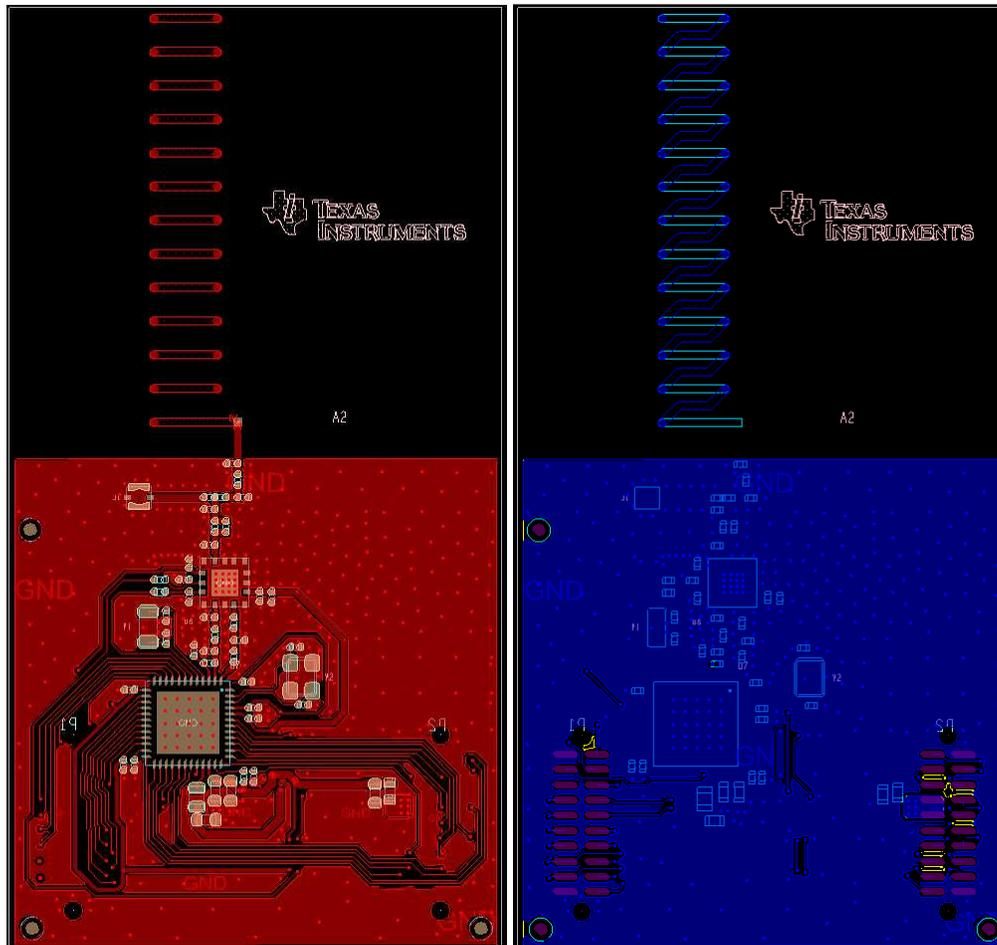

Figure 4. CC1310EM-SKY66115-4051 Layout
The design [3] is based upon a 0.8 mm thick, two-layer PCB. The top layer and bottom layer are shown in Figure 4. All components are positioned on the top layer apart from the evaluation module (EM) connectors. The CC1310EM-SKY66115-4051 is based upon the 7x7 QFN package. The RF front-end design can be re-used for 5x5 QFN and 4x4 QFN packages.